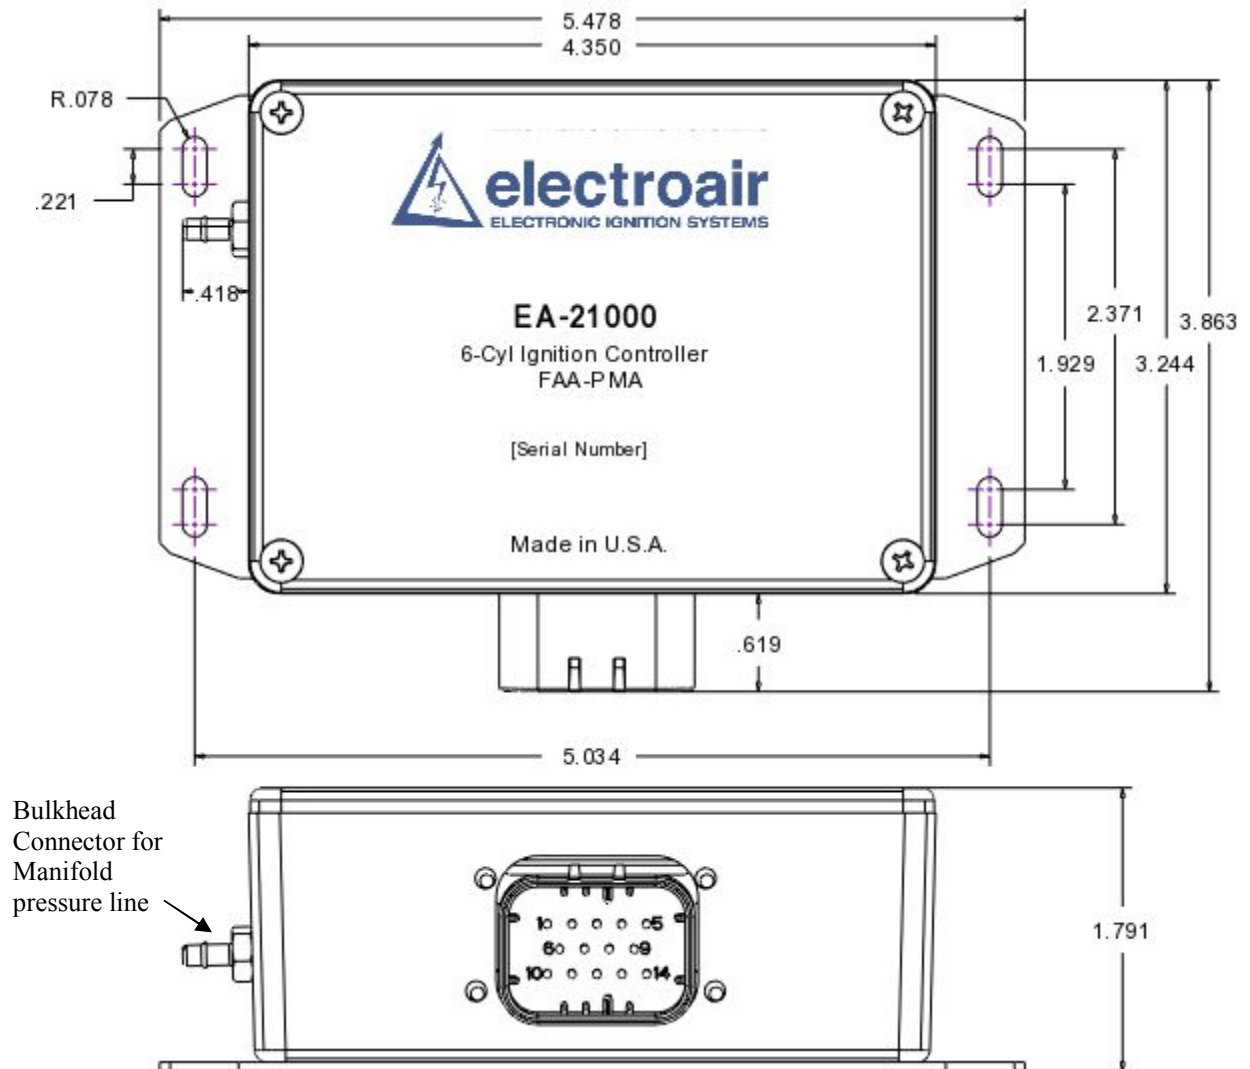

Figure 12: Part Number EA-21000; all dimensions in inches.
- a. **EA-21000 Installation:** Install p/n EA-21000 EIS Controller where temperatures will not exceed 150°F. Because of this, Electroair requires that the EIS Controller be mounted on the cockpit side of the firewall with the shortest practical distance from the coil pack for the wiring harness runs. Refer to Figure 12 for controller dimensions.